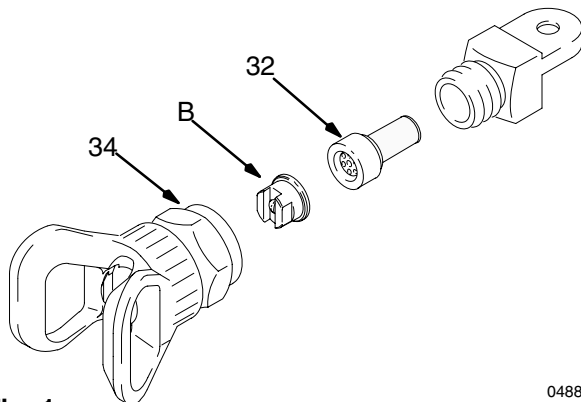

Fig. 1
4. With the gun safety knob locked, unscrew the tip guard (34) and install the tip (B) and filter assembly (32) in the tip guard nut. Screw the assembly firmly onto the gun. Tighten with a wrench. See Fig. 1.